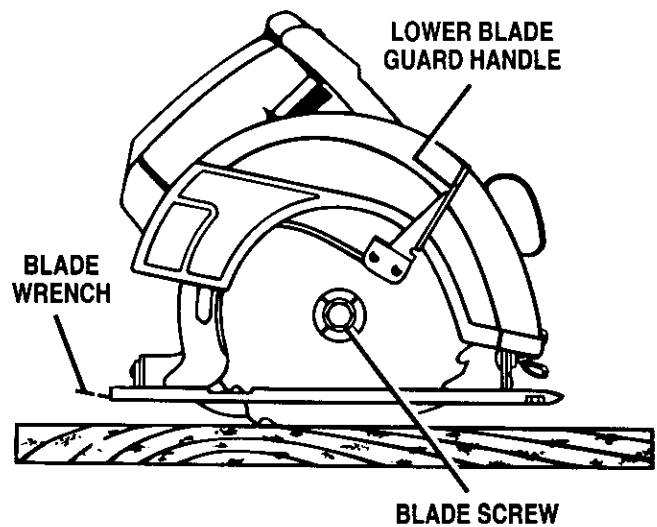

Fig. 4
- Place your saw on a piece of scrap wood as shown in Figure 4, and remove blade screw. **Note:** With blade teeth embedded in the wood, turn blade screw counterclockwise to remove.